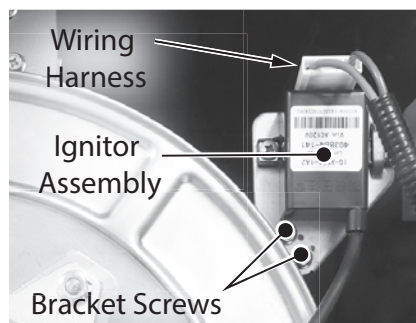

Figure 142 - Ignitor assembly location
- 31** Locate the ignitor assembly on upper right side of the heat exchanger as shown in Figure 142.